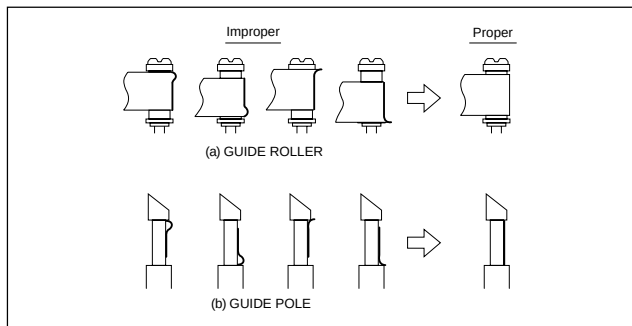

Fig. 3-2-2a
- ***To prevent damaging the alignment tape in the compatibility adjustment, prepare a cassette tape (for self-recording/play-back), perform a test on it by transporting it and making sure that the tape is not bent by the tape transport mechanisms such as in the guide rollers.(See Fig.3-2-2a.)***
- After adjustment, confirm that the tape wrinkling does not occur at the roller upper or lower limits. (See Fig. 3-2-2a.)